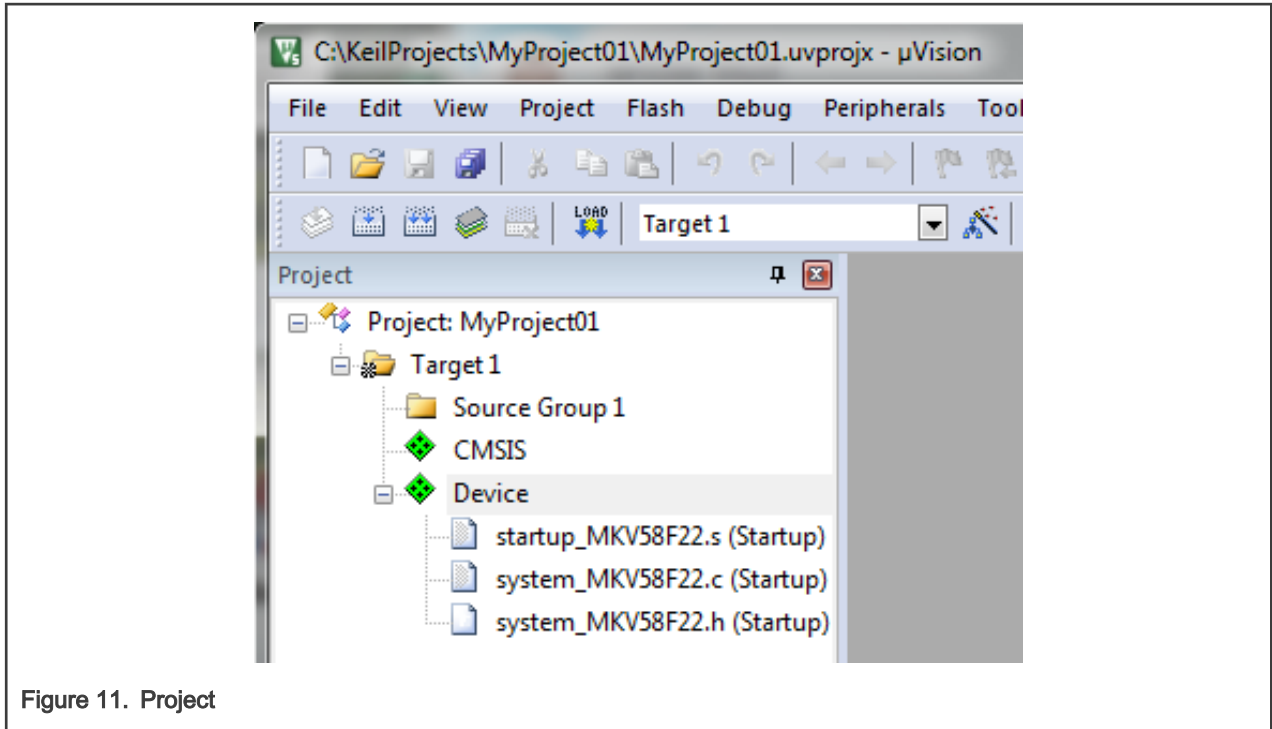

Figure 11. Project
10. Click OK, and a new project is created. The new project is now visible in the left-hand part of Keil µVision. See Figure 11.
13. Select Not Used in the Floating Point Hardware option. See Figure 11.